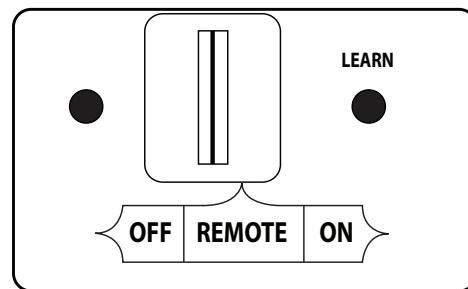

Fig. 31-2 Remote receiver (OFF for Manual Light)
- Ensure the pilot is burning. Then locate the 3-position switch on the remote receiver (see Fig. 31-2), and slide the switch to the **OFF** position.